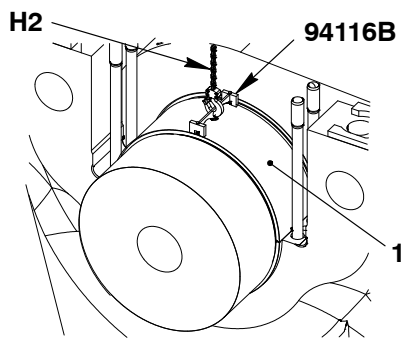
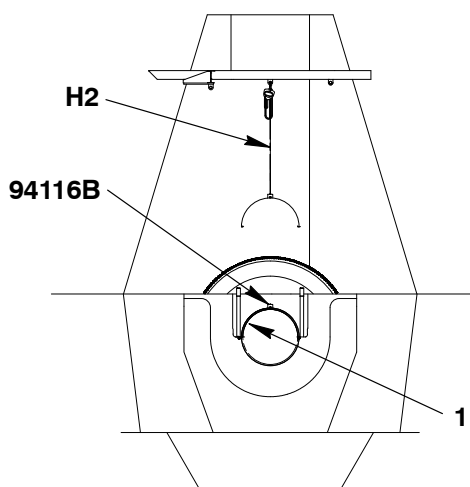

Fig. 16
Fig. 17
Note: If the bearing shell (1) does not move, the lifting plate (94119, Fig. 16) must be attached to the other side of the dismantling tool (94118A). The bearing shell must be moved back to its initial condition and you must do the removal procedure again.
- 8) Remove the bearing shell (1, Fig. 16) as shown in Fig. 17.
10) Install the lifting tool (94116B) to the bearing shell (1).